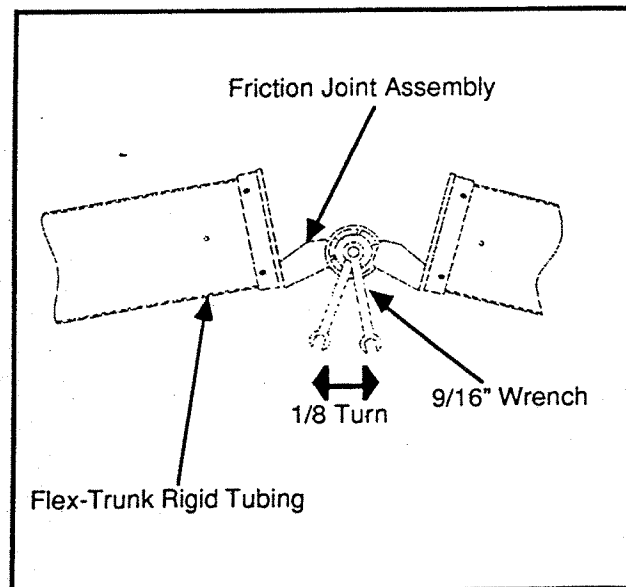

Figure 13
6.4.4 Middle Friction Joint Replacement (See Figures 13, 15, 16 and 17)
1. Follow Steps #2 through #4 in the Friction Joint Adjustment Section 6.4.1 (See Figures 13, 15 and 16). First relieve tension from the spring by extending the flex trunk arm to its full length of movement. Remove the spring by stretching and then removing from the spring bracket mount. Next remove the four (4) 8-32 screws, washers, and locknuts that hold the spring bracket mounts onto the friction joint casting collars. Next remove the two (2) 8-32 screws, washers and locknuts that retain the rigid plastic duct. Remove the rigid plastic ducting, being careful of the electrical cable connections if applicable. Remove the other two (2) 8-32 locknuts and remove the friction joint assembly from the other rigid plastic ducting. Disassemble the friction joint assembly by removing the 3/8-24 outer jam nut, then the inner 3/8-24 jam nut, and setting them aside. Next remove the spring washer and then the 3/8-24 bolt and spring washer from the opposite side. The friction disc material that is between the two friction joints will fall out. Replace the necessary friction joint by aligning the friction disc material between the two friction joints and installing the 3/8-24 bolt and washer which were removed. Next install the spring washer on the opposite side onto the 3/8-24 bolt. Install the first 3/8-24 jam nut and tighten to 60 to 80 in/lbs of torque. Install the second 3/8-24 jam nut, but do not tighten to the other nut as adjustment will be required after assembly is installed.
4. Check the arm movement and adjust as in Friction Joint Adjustment Section 6.4.1 (See Figure 13).
1. Follow Steps #2 through #5 in Friction Joint Adjustment Section 6.4.1 (See Figures 13, 15 and 16).
2. Remove the four (4) 8-32 screws, washers and locknuts securing the hood to the U-joint and set aside.
3. Remove the four (4) 8-32 screws, washers and locknuts that are holding the U-joint assembly and remove the U-joint from the rigid ducting.
4. Reposition the replacement U-joint assembly by aligning the four (4) holes in the rigid ducting and fasten in place using the fasteners that were removed in Step #3.
5. Fully extend the arm joint where the most weight is applied to the upper or middle friction joint assembly that requires adjustment. Loosen the outer jam nut first using a 9/16" wrench. With the joint fully extended adjust by tightening or loosening the inner 3/8-24 jam nut until the friction joint holds the weight of the flex trunk arm. Tighten the outer 3/8-24 jam nut to the inner jam nut by using a 9/16" wrench to hold the inner jam nut. Torque the outer jam nut to 250 in/lbs (See Figure 13). Check the movement of the entire flex trunk arm. Repeat the above adjustment until desired performance is achieved.
8. For adjustments of the U-joint at the hood, the two (2) 3/8-24 bolts and locknuts should be tightened or loosened individually until the best movement and support of the hood is achieved. All other instructions are applicable (See Figures 13, 16 and 17).